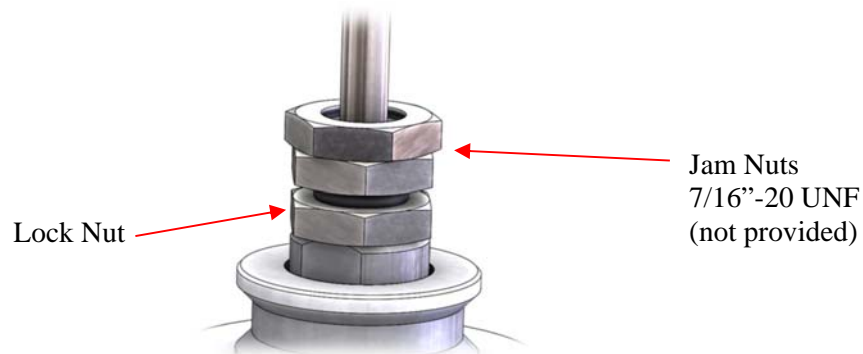

Figure 36: Jam Nuts Used on Adjustment Screw
7. Loosen the lock nut by using two additional jam nuts on the adjustment screw to prevent it from turning. See Figure 36.